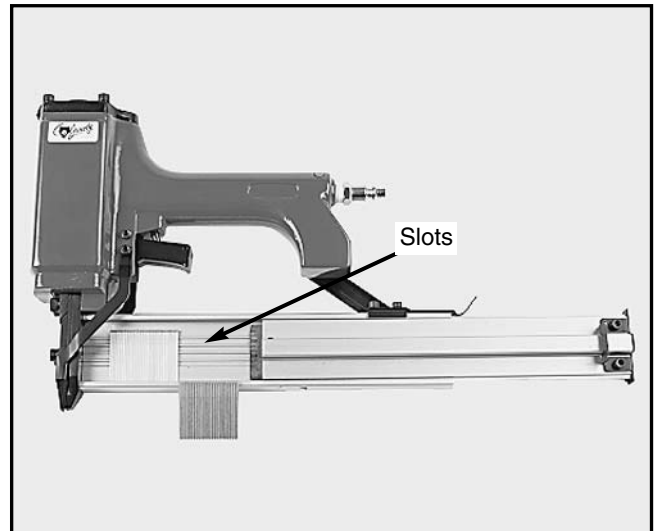

Figure 2. Inserting brads in magazine.
3. Slide the magazine out and place the brads into the nailer. Your nailer has slots in its magazine to accommodate different size brads. **Figure 2.**